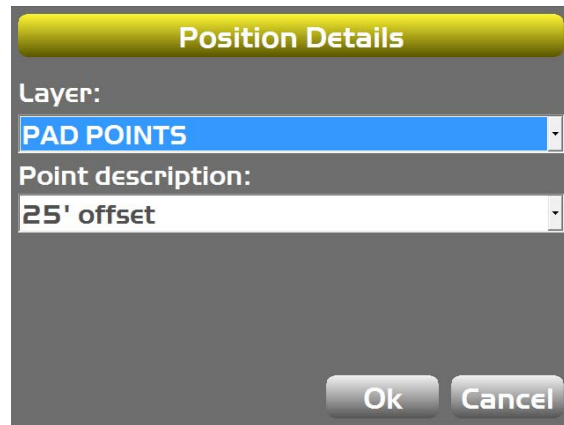

Figure 20: Position Details Screen
3. When finished, the **Position Check** screen displays the point on the job of the selected edge of the blade. Tap **Save**; the **Position Details** screen appears (Figure 20).